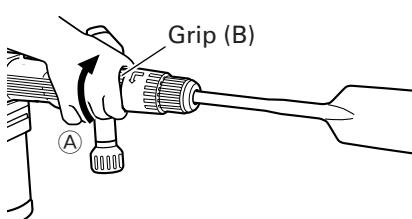

Fig. 5
- (2) As shown in Fig. 5, if grip (B) is turned 60 degrees in the direction of ①, the holding part of the tool automatically turns 30 degrees. If this action is repeated, the blade angle of the tool can be changed by every 30 degrees.
- (3) Release grip (B) and turn the tool, and make sure that it is locked completely.